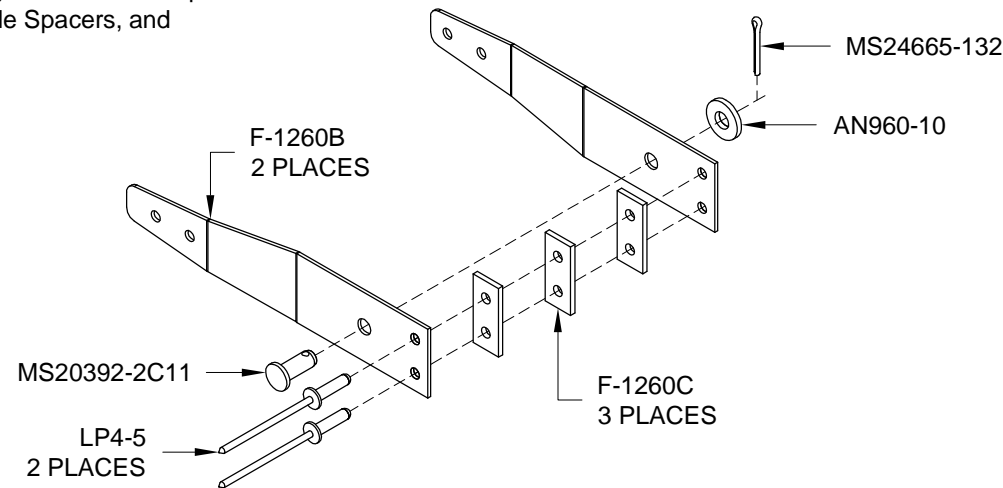

FIGURE 2: FORK ASSEMBLY
Step 2: Make the Fork Assembly using the F-1260B Flap Handle Forks, the F-1260C Flap Handle Spacers, and the hardware called out in Figure 2.